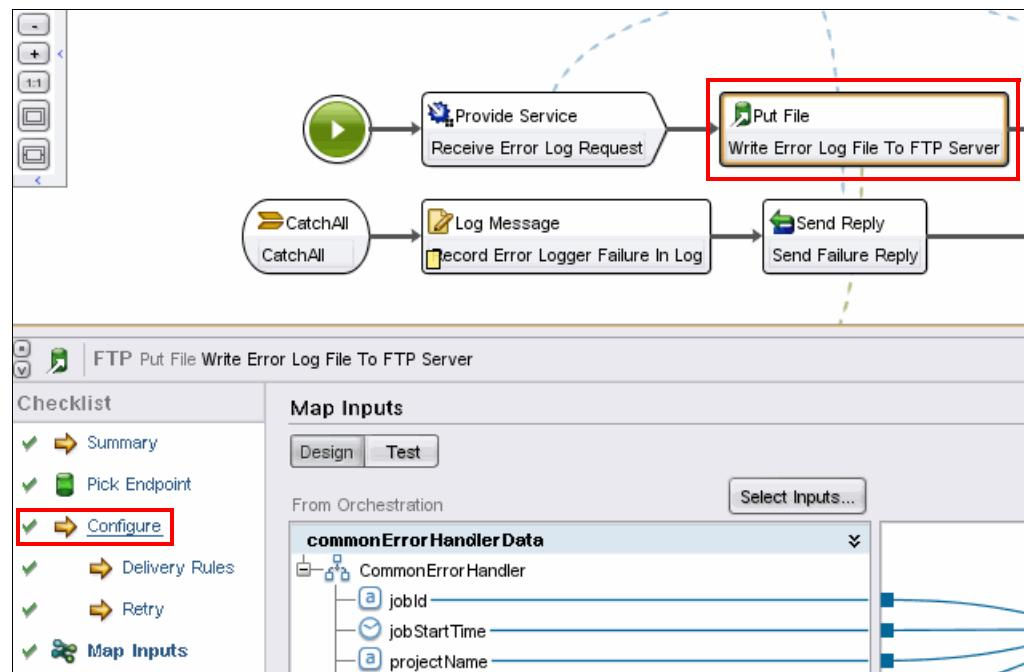

Figure 7-12 Select Configure of the activity to drag to the steps
- Drag the Configure task from the checklist of the “Write Error Log File To FTP Server” activity in the orchestration to the Steps panel to add a step with the name Configure, as shown in Figure 7-12.